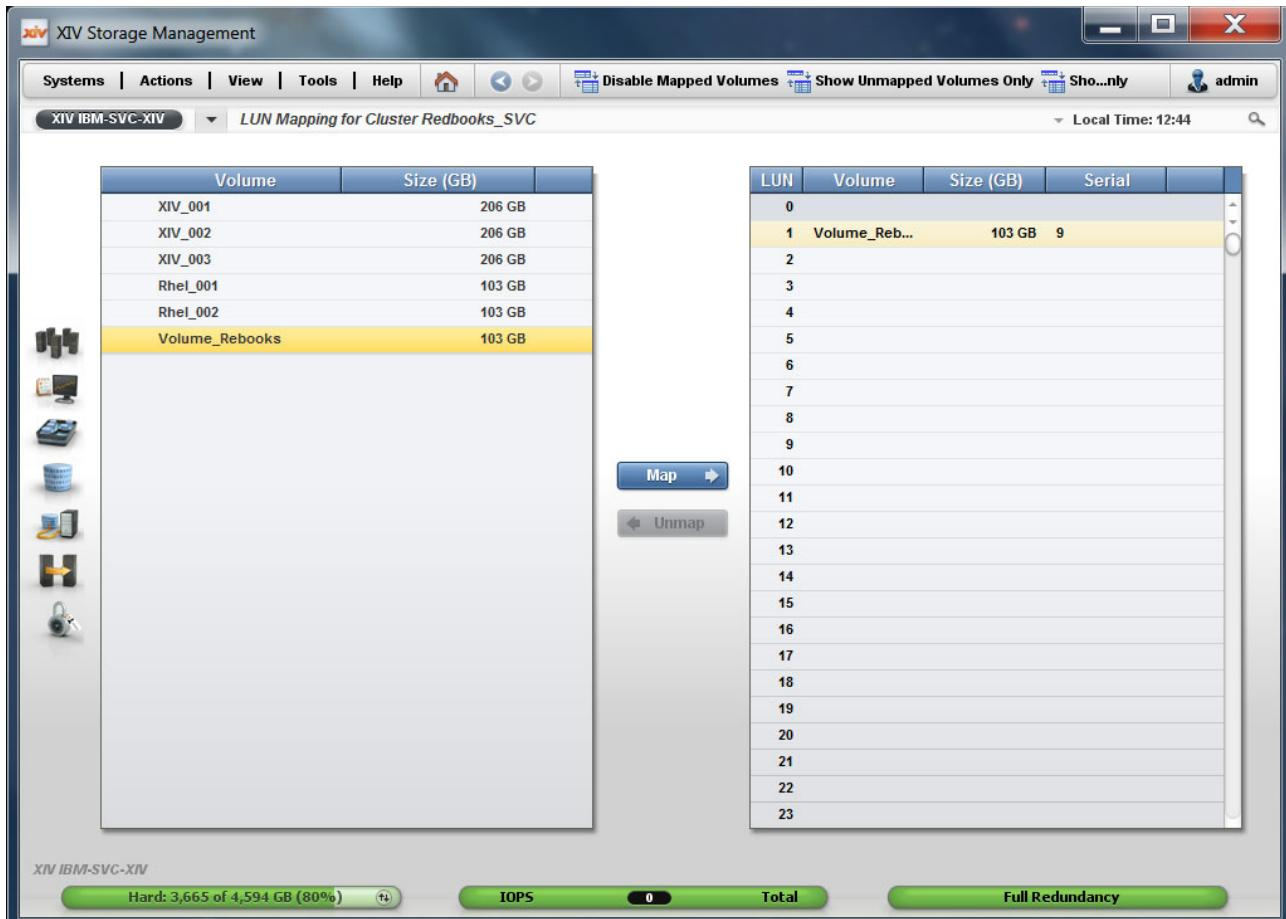

Figure 13-11 Selecting a LUN for mapping in the XIV GUI
- The Volume to LUN Mapping window opens, as shown in Figure 13-11. Select the volume that will become an MDisk from the left pane. The GUI suggests a LUN ID to which to map the volume; there is no need to change it. Click **Map** and the volume is assigned immediately.